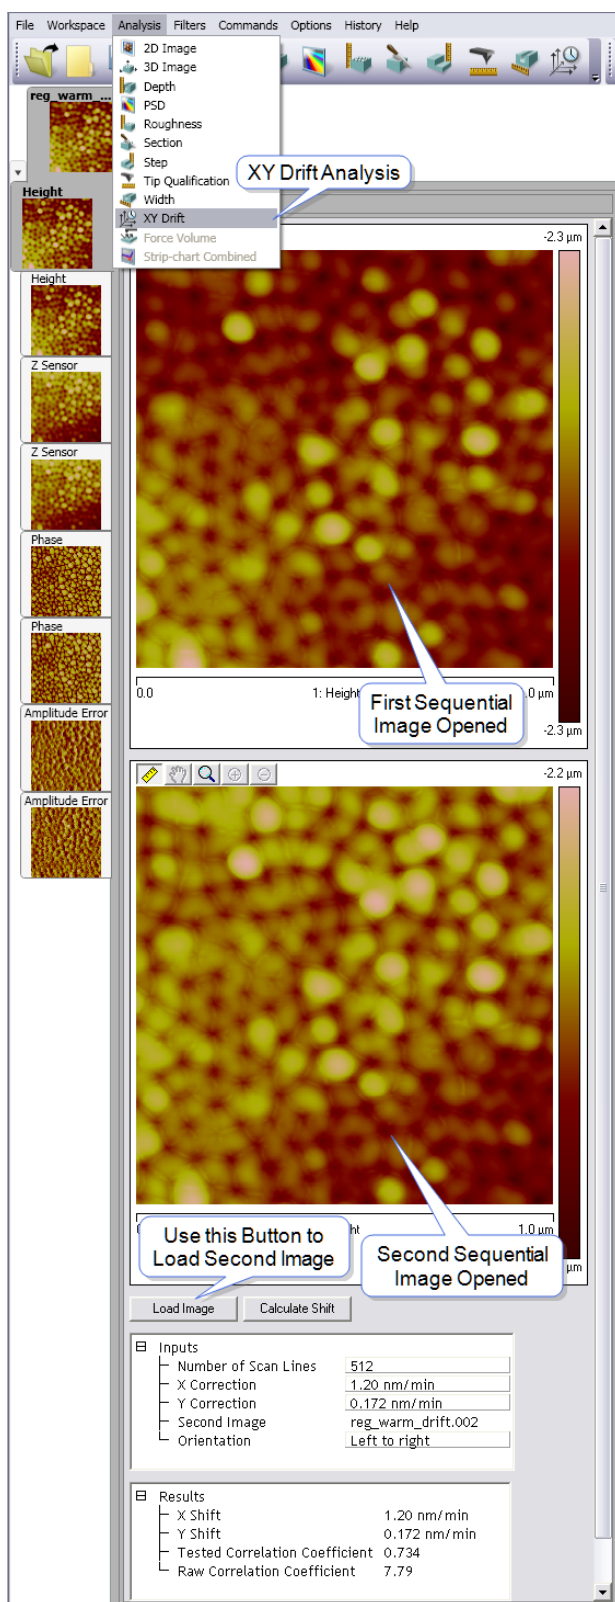

Figure 5.15a: XY Drift Analysis Menu & Window
3. The **XY Drift** view, shown in Figure 5.15a, opens showing the selected image.